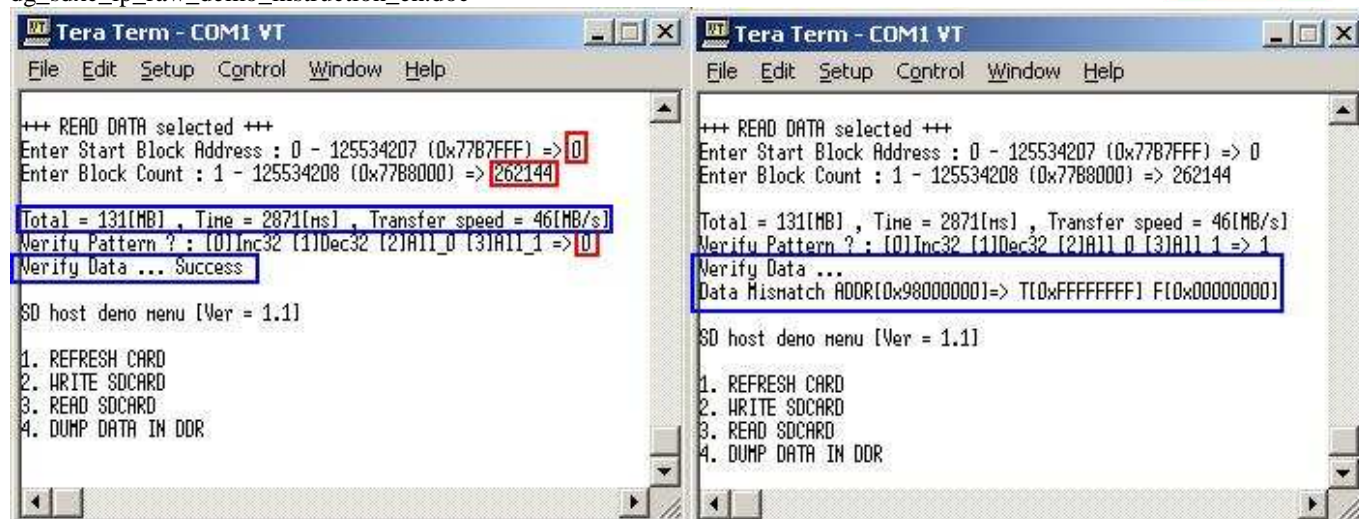

Figure 12 READ Operation with verify process
- Verify Pattern: this menu will be displayed if Block Count is less than or equal 262,144. Four verify pattern can be selected, like in WRITE SDCARD menu. "Verify Data ... Success" will be displayed if all data in read buffer are equal to check pattern, but "Data Mismatch with failure value" will be displayed instead if any data is not equal, as shown in Figure 12.